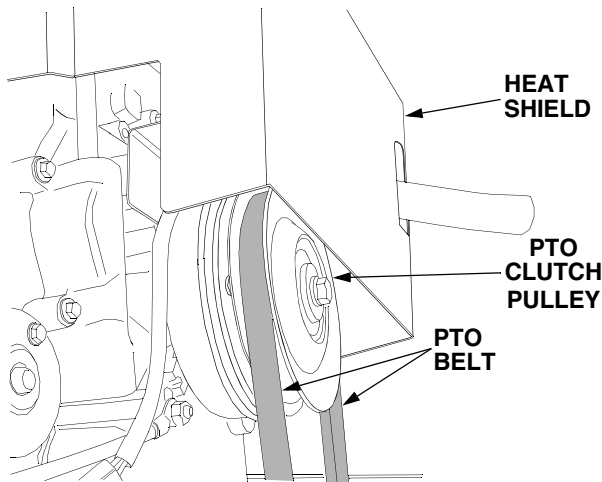

Figure 49
12. Loop the PTO belt with the narrow side of the 'V' belt inward; then maneuver the loop of the belt up between the front of the PTO pulley and the heat shield on the front of the engine, and place the belt into the groove of the PTO pulley. See Figure 49.